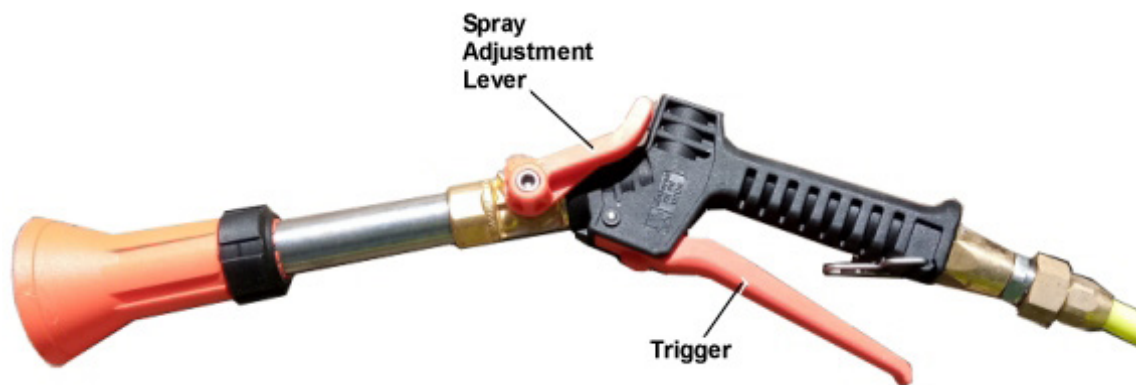

Figure 5 – Spray Gun (typical)
- Aim the hose's spray gun in the required direction and squeeze the trigger. Adjust the spray pattern by operating the lever on the spray gun handle, refer to Figure 5.